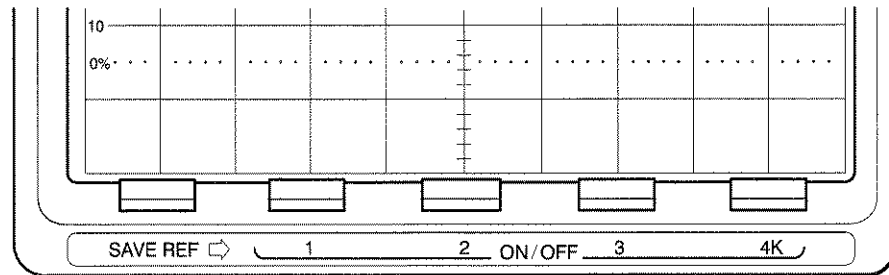

Figure 3-42: SAVE REF Memory Buttons
- Step 3:** Press the **SAVE REF** button underneath the display (Figure 3-42). The current acquisition stops and a display readout appears that indicates the status of each memory location as either full or empty.